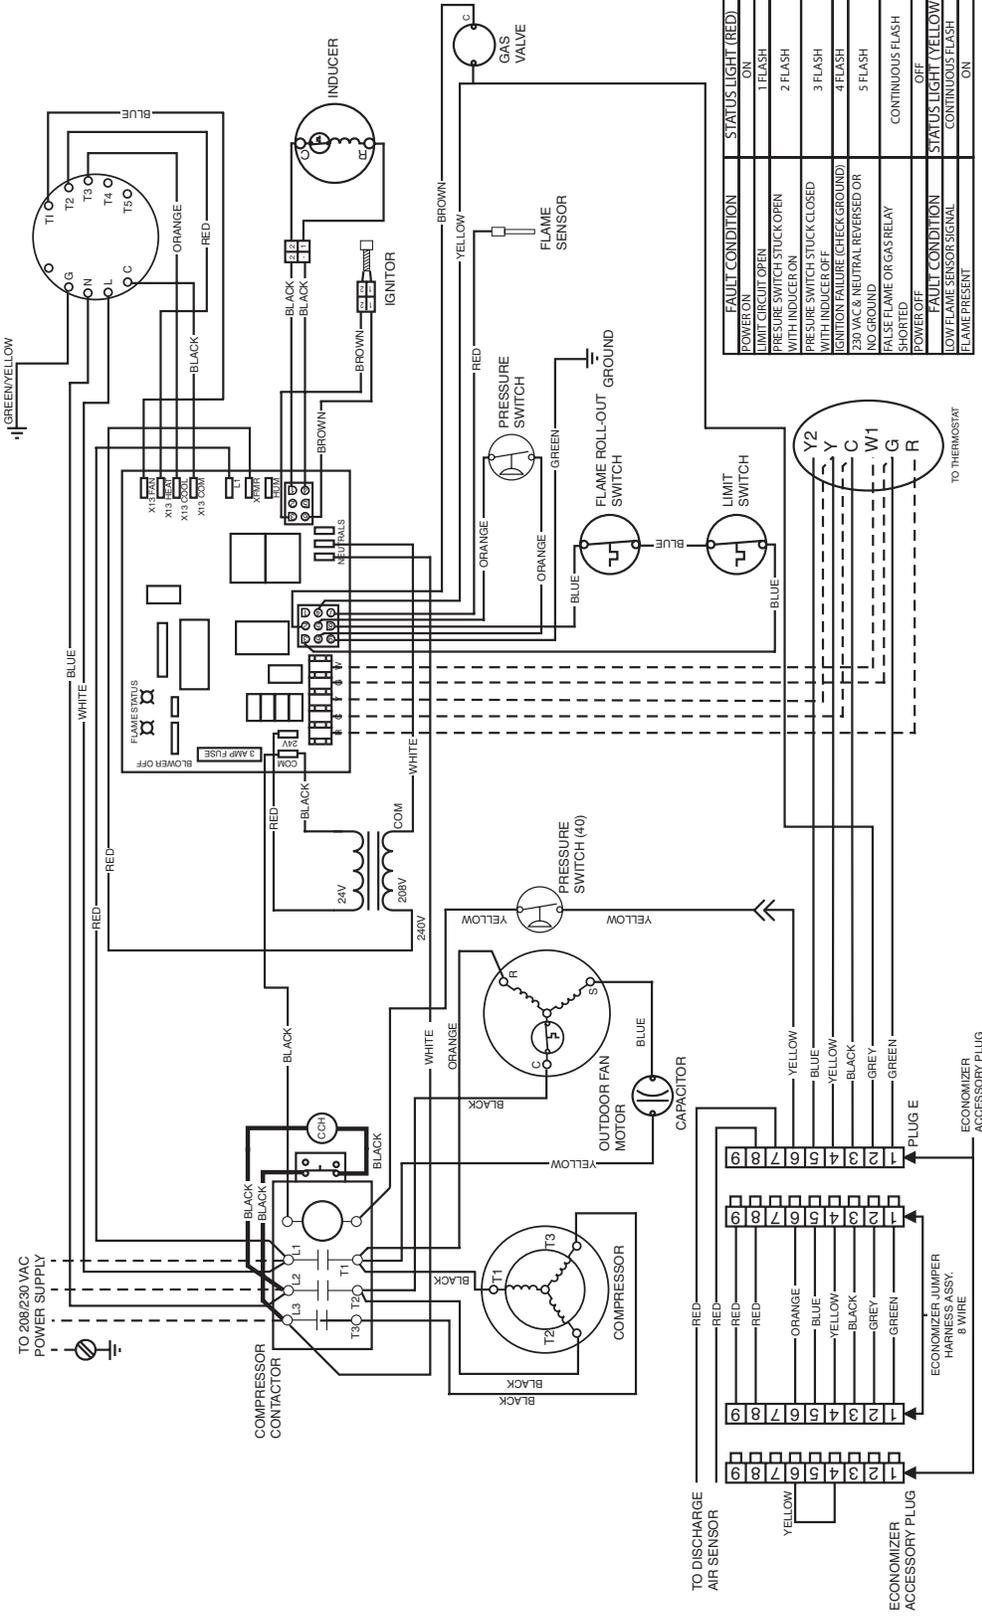

Figure 10. Single-Phase Wiring Diagram.
- Connect the cable leads to the subbase or thermostat terminals and to the unit’s low voltage connector on the furnace board as shown in **Figure 9**. A system wiring diagram is also provided on the inside of the louvered control access panel and in **Figure 10** of these installation instructions.
The unit is equipped with a multi-speed motor. A heating and cooling speed selection is made by moving the leads on the blower motor terminal block. The wiring diagram on the unit and in Figure 10 show the speed taps for adjusting motor speed. Refer to the Blower Speed Section of this installation instruction for more details.